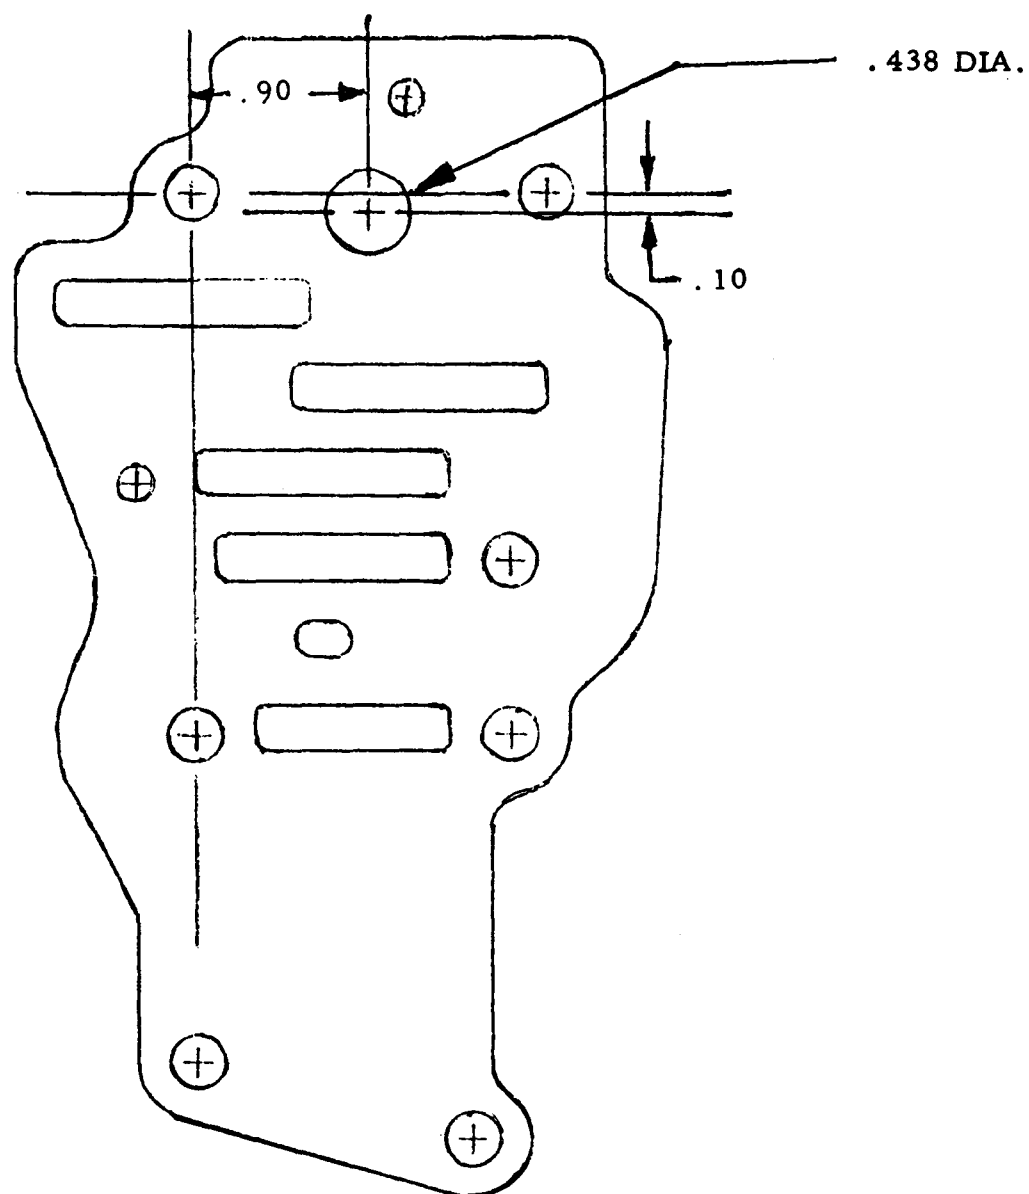

Figure 4. 6835527—Gasket, 1st Range Valve Body
5. Rework a 1st range valve body gasket P/N 6835527 by adding a 0.438 inch diameter hole at the location indicated in Figure 4.